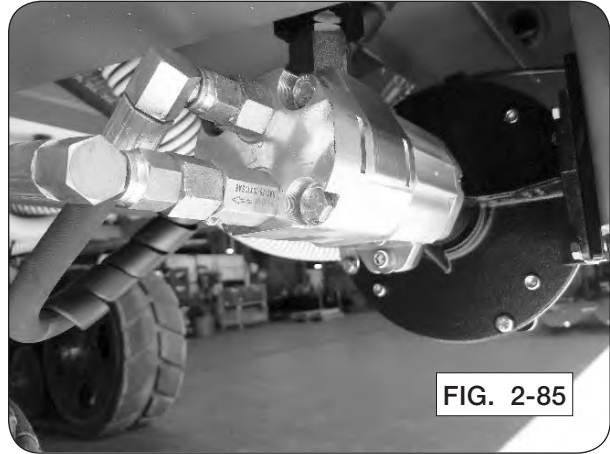

FIG. 2-85
- 2B. Mount 750 PWM pump assembly directly to pump mount bracket using (4) 3/8"-16UNC x 1 1/4" hex cap screws 9390-056 and (4) 3/8"-16UNC serrated flange nuts 91263.
3. Install hydraulic hoses into hydraulic ports, pressure line on top and return line on bottom. The pressure line will utilize adapter fitting 98801, and the return line will have a reverse flow check valve coupled with another adapter fitting 98801. (FIG. 2-85)